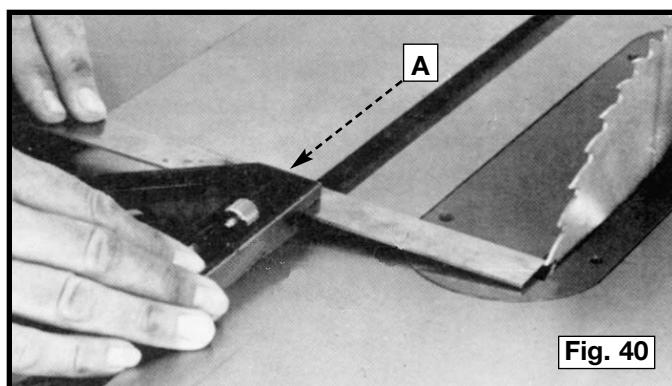

Fig. 40
1. Place a combination square (A) Fig. 40 on the table with one edge of the square in the miter gauge slot. Adjust the square so that the rule touches one of the teeth on the saw blade (Fig. 40). Lock the square in this position.